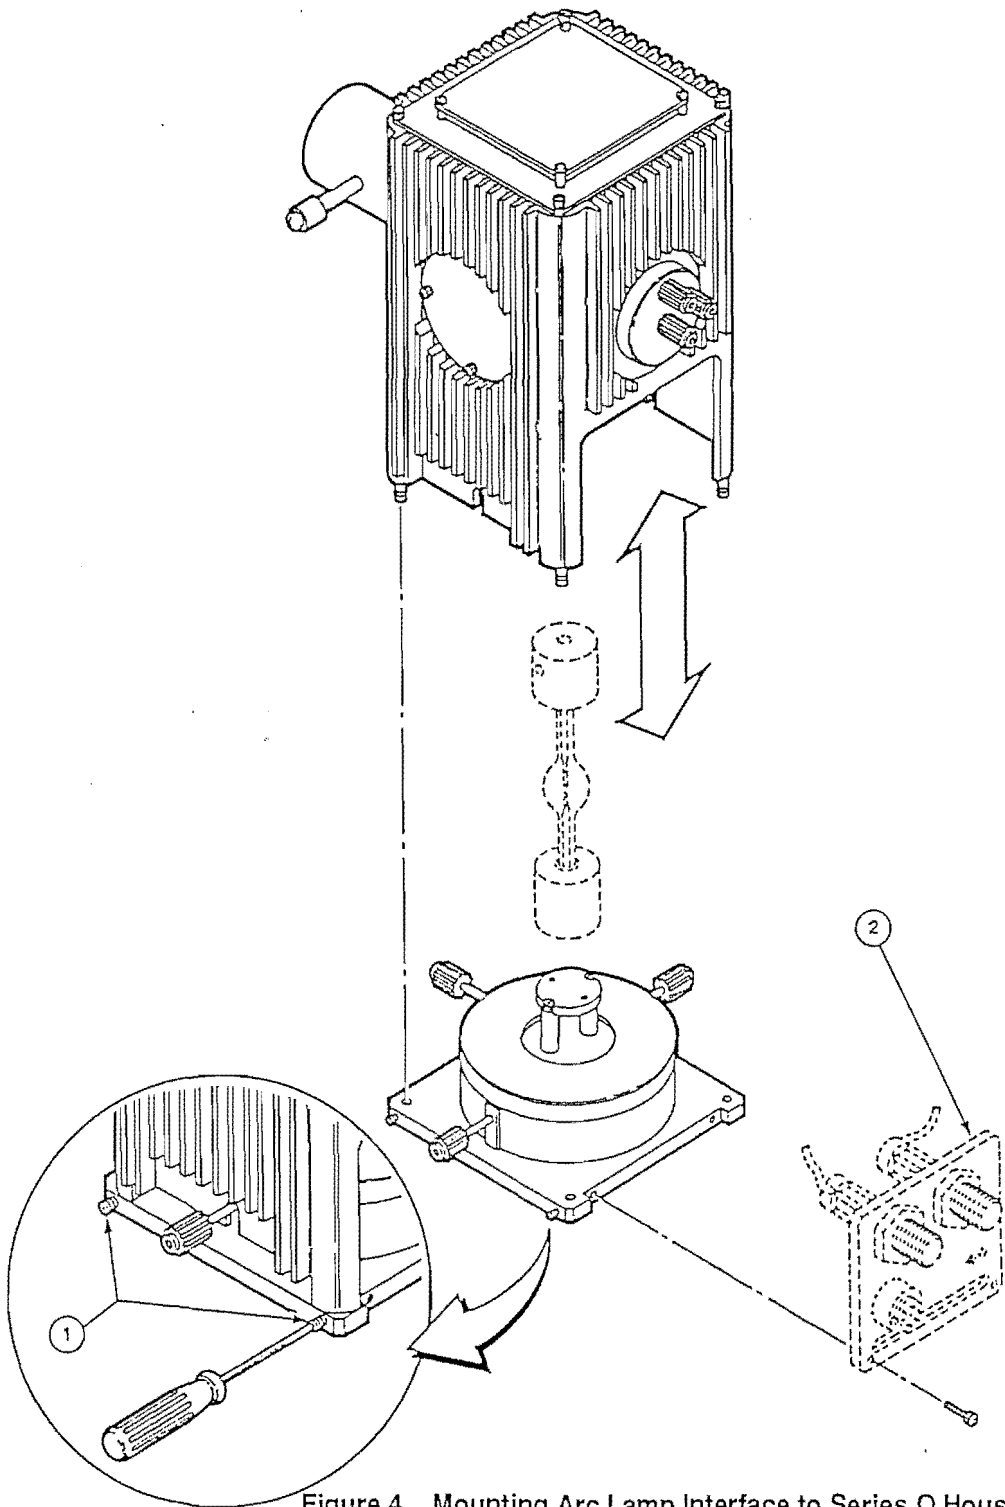

Figure 4 Mounting Arc Lamp Interface to Series Q Housing
All kits have a similar interface plates to the one shown in Fig. 4 for arc lamps; they are mounted as follows:
1. Partially loosen the (4) retaining screws, #1, and remove the upper housing shell by sliding it upward.
2. Secure the phenolic interface plate, #2, with the (2) socket head cap screws in the recess of the base, as shown in Fig. 4.